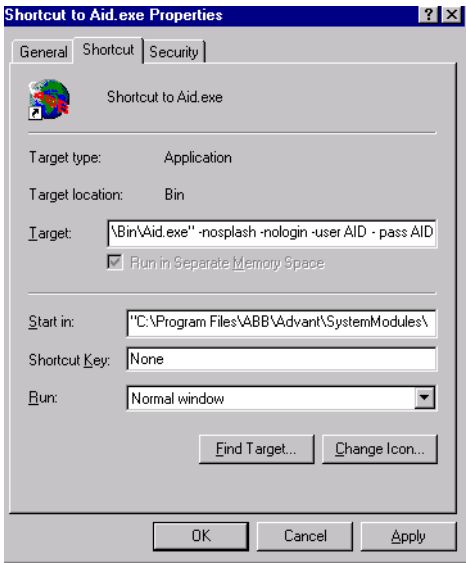

Figure 5. Specifying Login Parameters for the Shortcut
4. Click the **Shortcut** tab, and use the Target field to specify your login parameters, Figure 5. Enter the parameters after the target text string (enclosed in quotation marks). The parameters you can specify are described in Table 2.